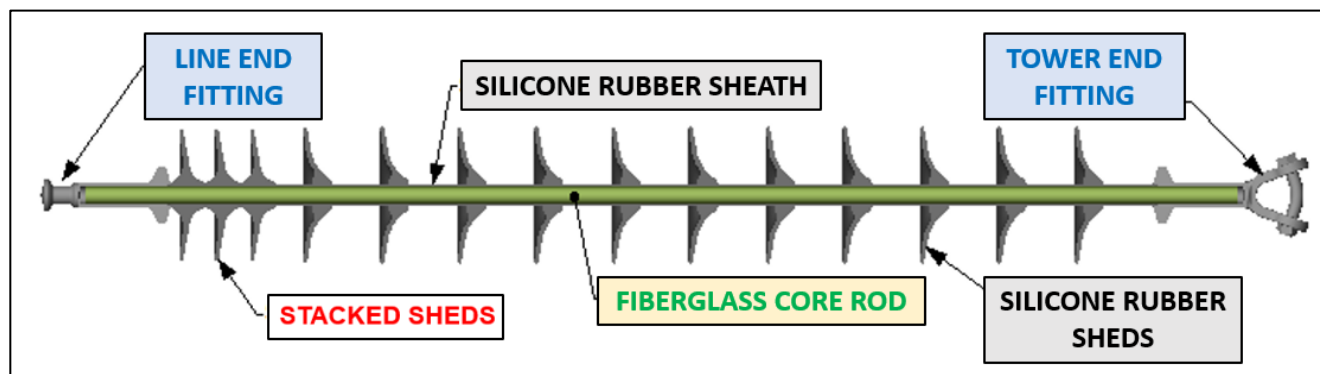

Fig. 1: Polymer Insulator Composition
- 1) Core – Fiberglass core rod, which is the heart of the polymer insulator, serving as both the primary mechanical and electrical component of the insulator. **[Green text in Fig.1]**
- 2) Housing – Typically a generic term for the sheath and weather sheds, most made up of either Silicone Rubber, or EPDM Rubber (and sometimes a combination of both). **[Black text in Fig. 1]**
- 3) End Connections – the end fittings, ductile iron or steel, connected to the core rod. The end fittings act as the mechanical connections through which the system loads are applied through the core rod to the tower. The insulator will typically have a Line end fitting (LEF), and a Tower end fitting (TEF). **[Blue text in Fig.1]**